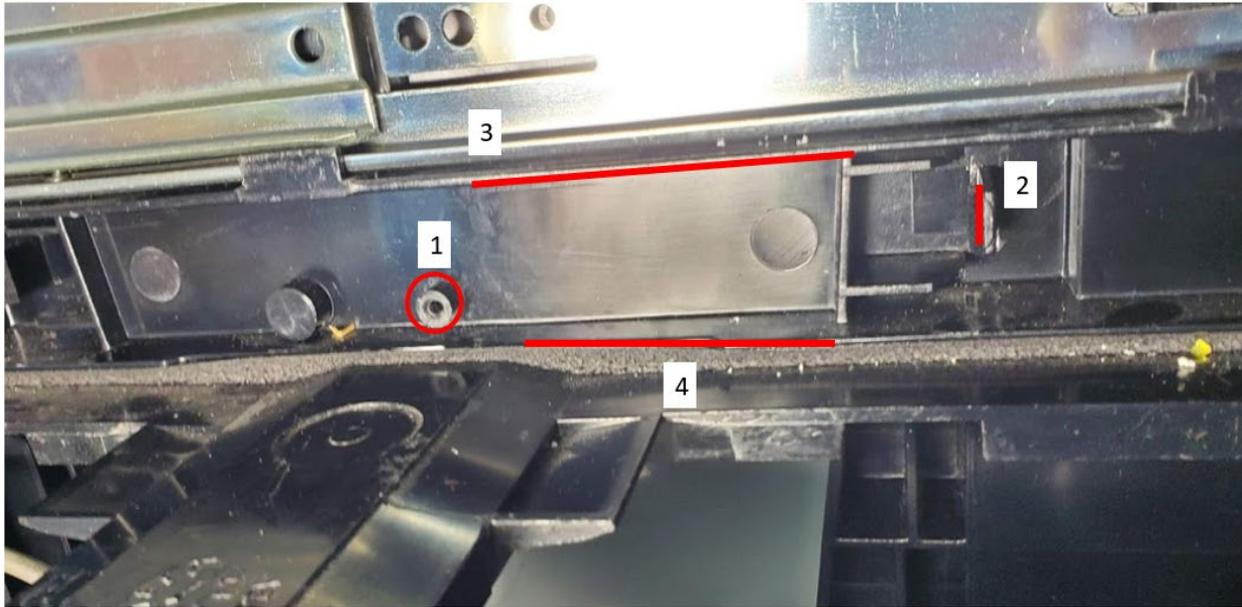
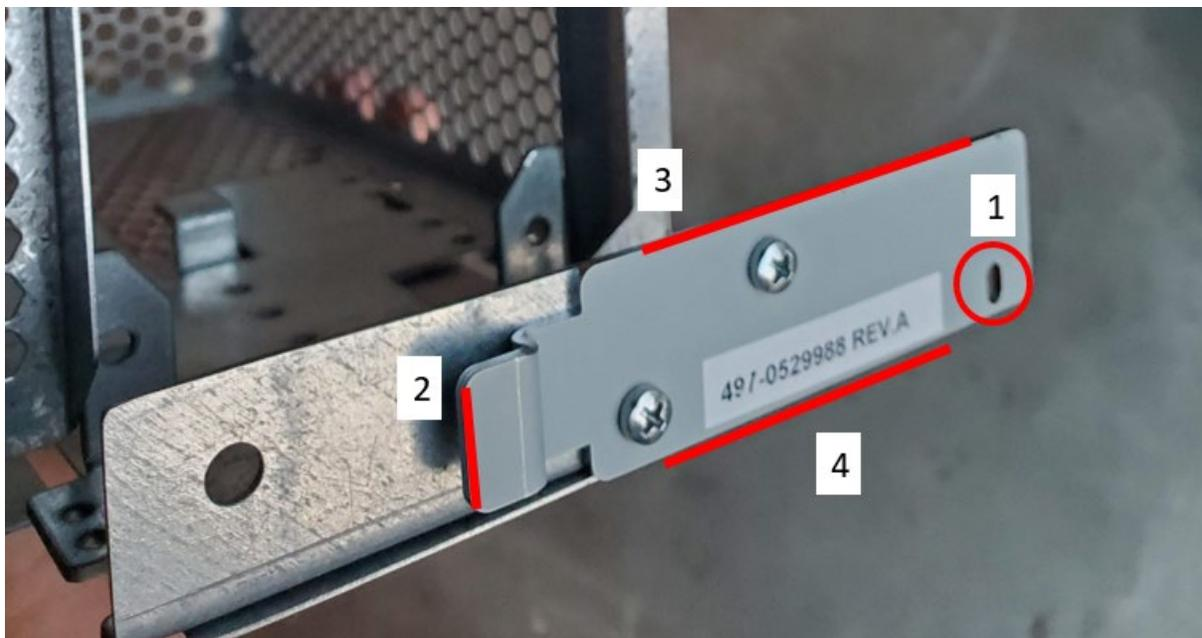
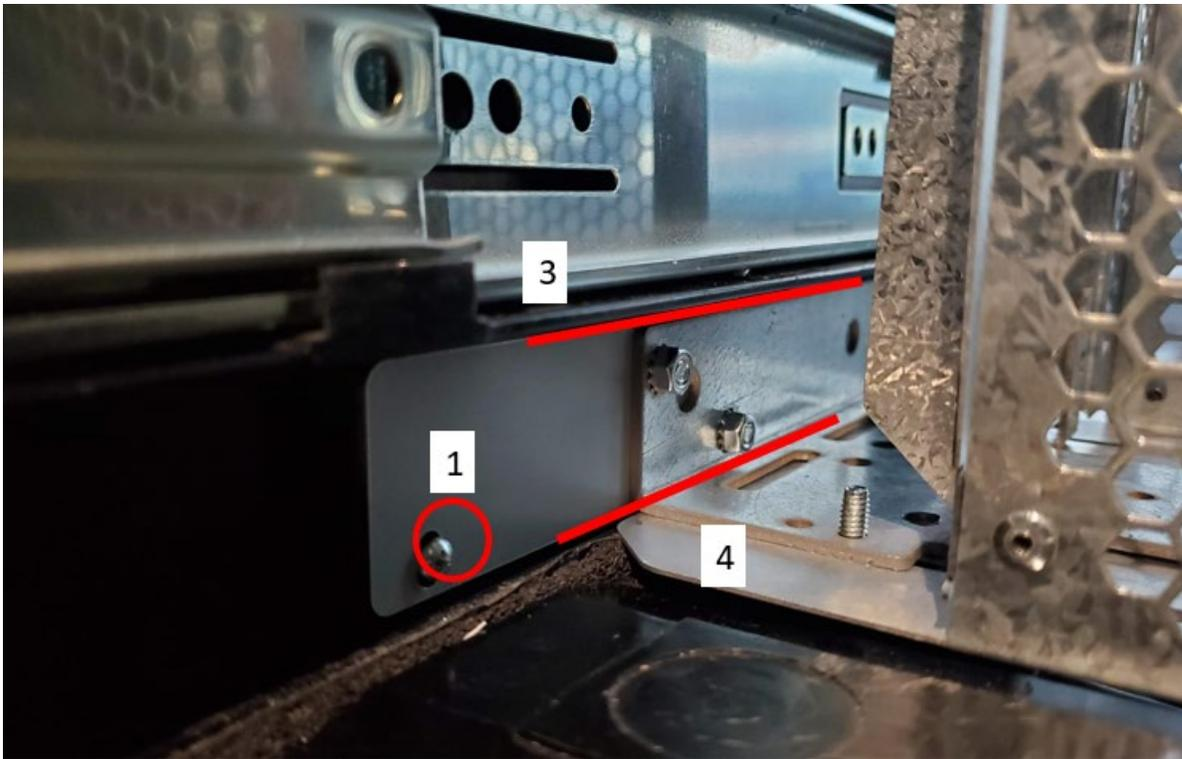

Figure 242
Figure 243
Figure 244
12) Install the Heater Mount, Helix Standard (497-0529988) to pump cavity as shown in Figure 242, Figure 243, and Figure 244 below.